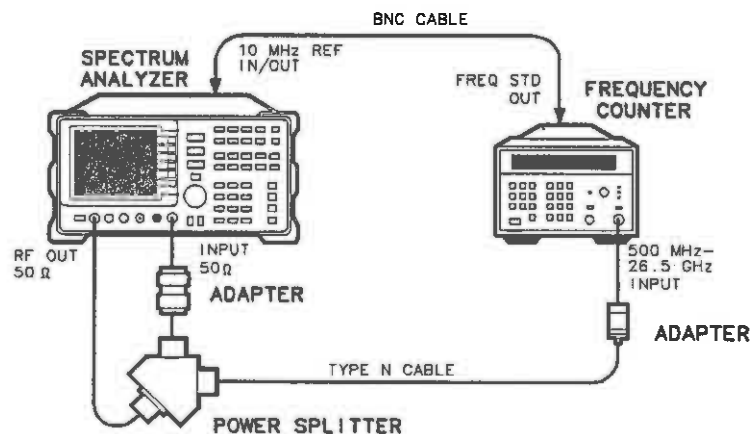

Figure 3-35. Tracking Generator Frequency Accuracy Test Setup
1. Connect the equipment as shown in Figure 3-35.